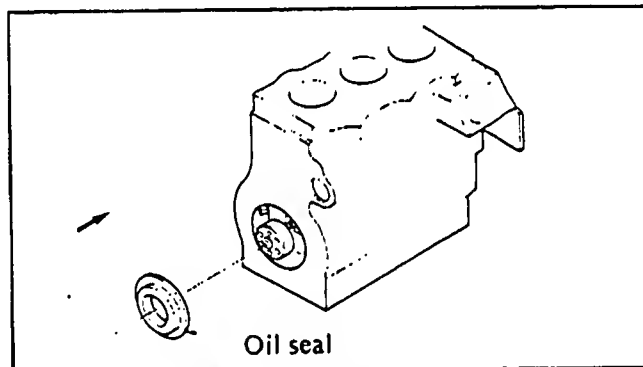

Figure 3. Oil Seal Installation
4. Install oil seal at flywheel end of crankshaft (Figure 3).